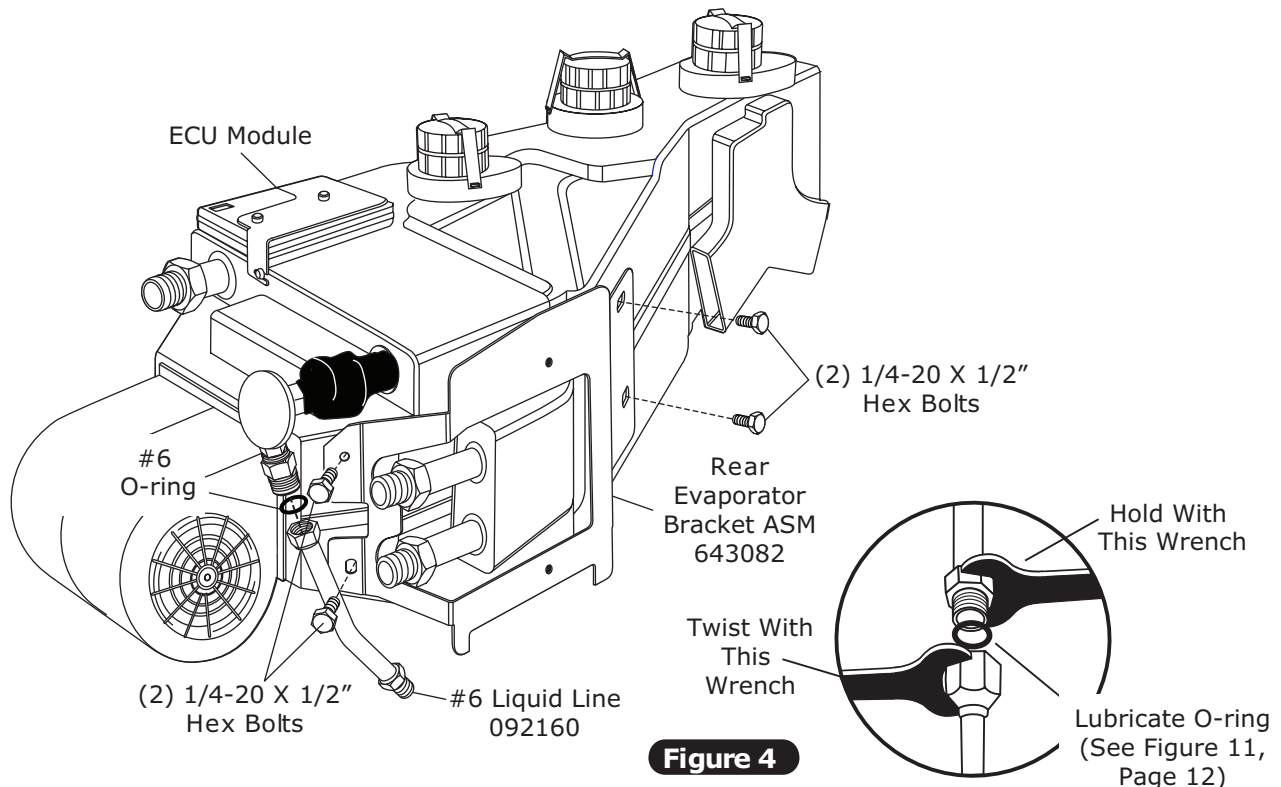

Figure 4
1. On a workbench, install evaporator rear bracket using (4) 1/4-20 x 1/2" hex bolts.
2. Install hardlines with properly lubricated O-rings (See Figure 4, below, and Figure 11, Page 12).